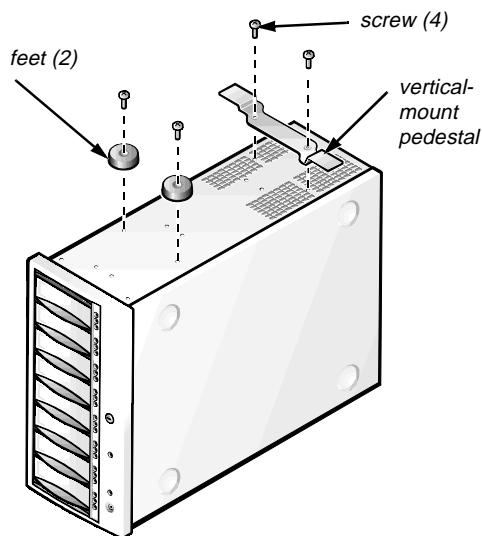

Figure 2-1. Installing the Feet and Vertical-Mount Pedestal
- a. Carefully place the storage system on its right side (see Figure 2-1).
- c. Reinstall two of the feet near the front edge of the storage system’s left side (see Figure 2-1).